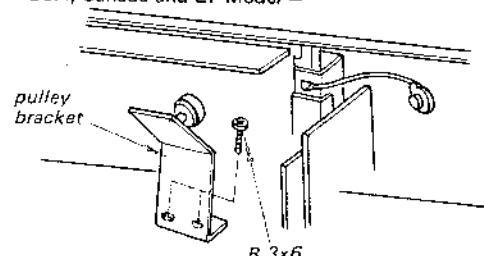

Fig. 2-16. Dial pulley bracket removal
2. Remove the two self-tapping screws (\oplus B 3x6) (■) or two screws (\oplus B 3x6) (●) securing the dial pulley bracket to the chassis as shown in Fig. 2-16.